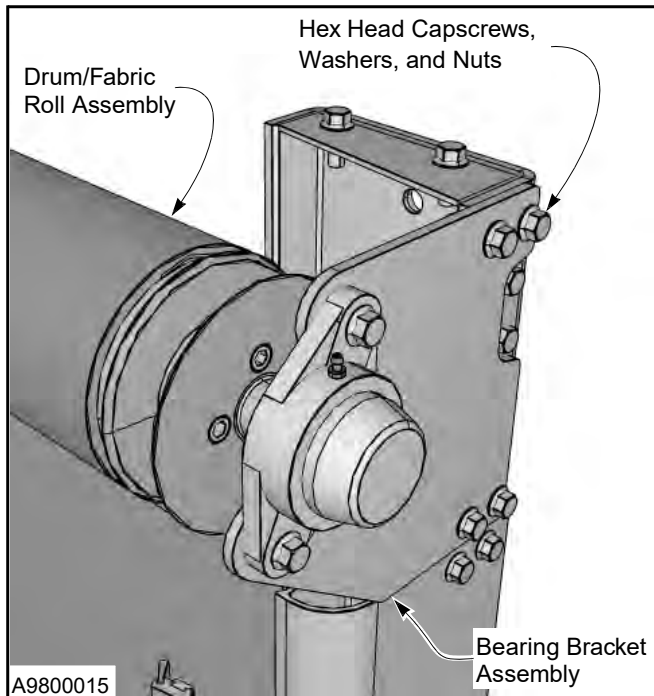

Figure 20
7. Bolt the bearing bracket assembly to the side column using four  $\frac{3}{8}$ -16 x  $1\frac{1}{4}$ -in. hex head capscrews, washers, and nuts. **DO NOT** tighten the hex nuts at this time. (See Figure 20)